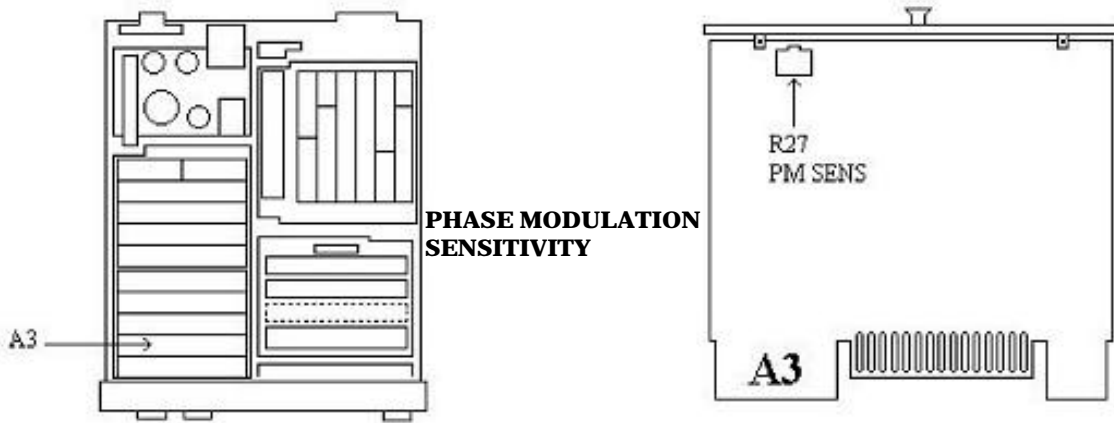

Figure 12. A3 board.
- (5) Press TI keys as listed in (a) through (c) below:
- (6) Adjust AM/FM test source **CARRIER FREQUENCY TUNE** control for a TI indication of approximately 100 MHz.
- (7) Press TI keys as listed in (a) and (b) below:
- (8) Adjust calibrator level for a TI indication of 100 kHz.
- (9) Press TI **F M** key.
- (10) Adjust A3R27 PM SENS (fig. 12) for a TI indication of 100 ± 0.2 rad. (R)